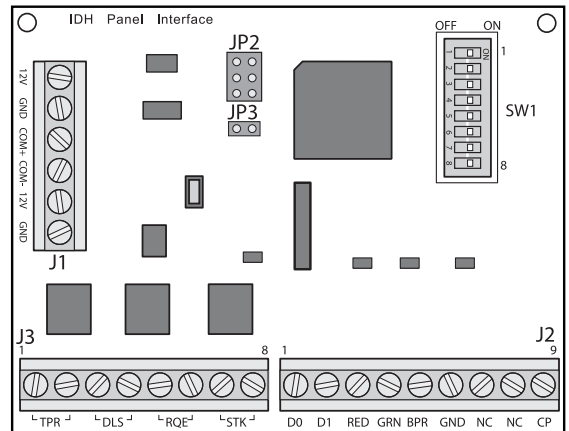

Figure 23a Panel interface circuit board
**Note:** JP2 and JP3, shown in Figure 23a, are used for manufacturing purposes only.